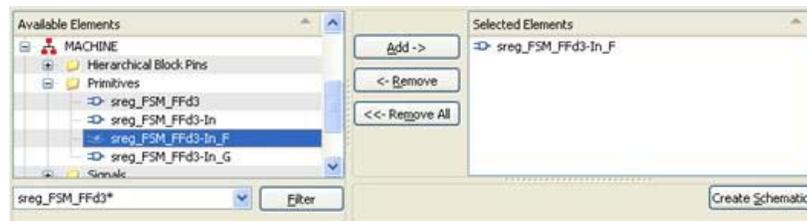

Figure 5-14: Restarting Schematic Viewer
3. Select the **sreg_FSM_FFd3-In_F** from within the **MACHINE** hierarchical block, add it to the **Selected Elements**, and then click **Create Schematic**. See Figure 5-14.